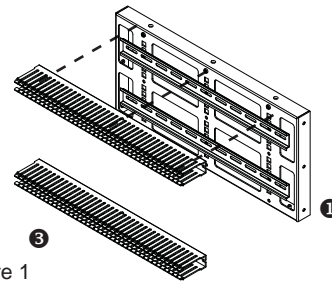

Figure 1
Step 2. Align wire duct's ❸ inside open slots with 3 screw holes on top and bottom edge of main panel ❶. Secure them with M4x8 screws. (Figure 1)